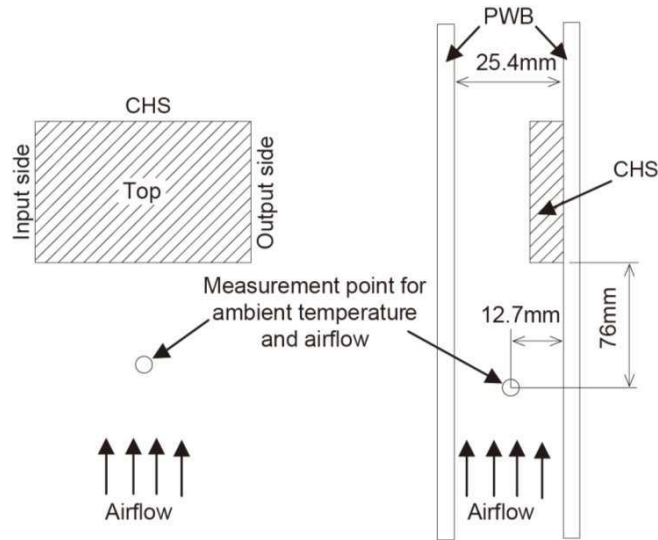

Fig.5.10.32
- Fig.5.10.32 ~ 5.10.83 show the derating curve in the condition that is measured as shown in Fig.5.10.31.